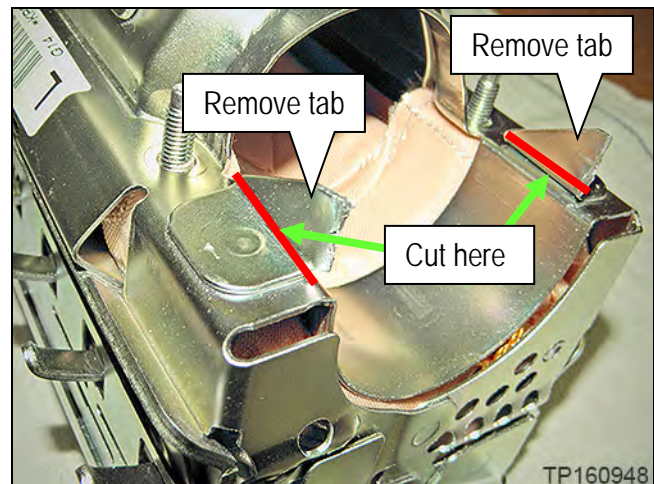

Figure 22
- Left side shown cut in Figure 22.
- b. Cut the remaining tabs at the points shown in Figure 22.